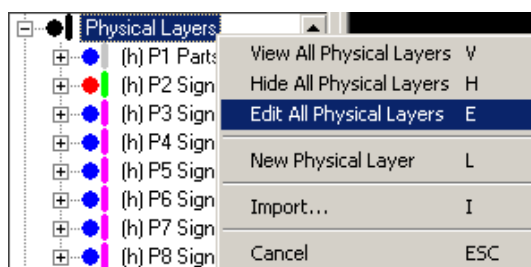
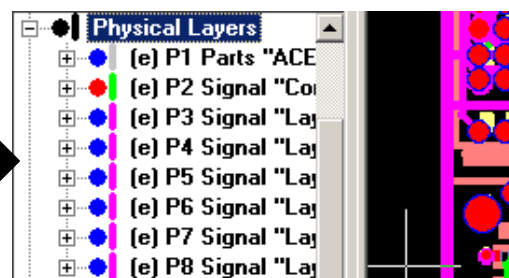

Figure 4: Highlighting the Parent
Figure 5: All Physical layers in Edit
3. Also try setting layer visibility when the Physical Layers branch is selected (as shown in Figure 4). You will notice that the change applies to the parent and the children (see Figure 5).